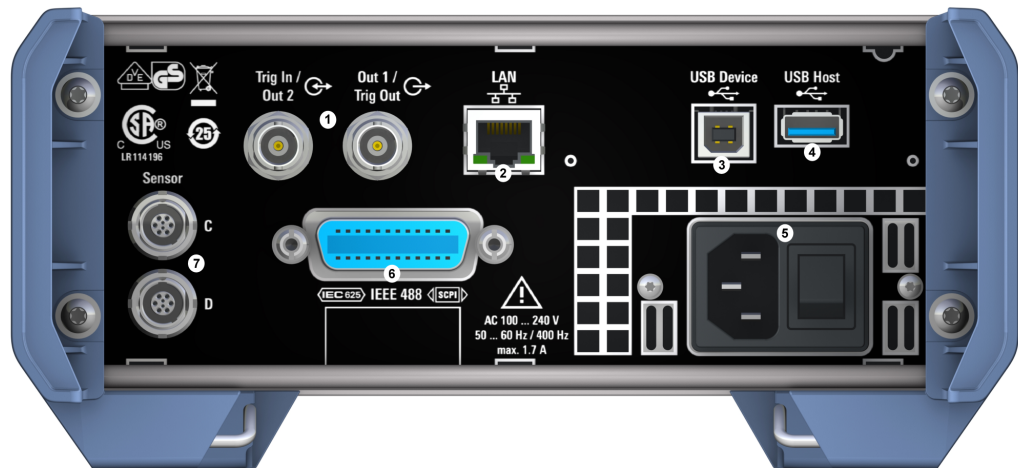

Figure 5-2: RearView of R&S NRX
See (1) in Figure 5-2.
See (2) in Figure 5-2.
See (3) in Figure 5-2.
See (4) in Figure 5-2.
See (5) in Figure 5-2.
See (6) in Figure 5-2.
See (7) Figure 5-2.